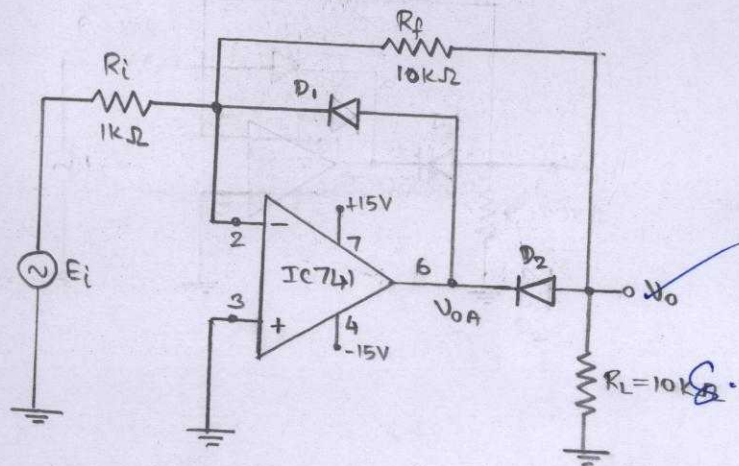

Fig 3.6. Precision Half-wave Rectifier - B
- 1) Build the precision rectifier circuit shown in Fig.3.6